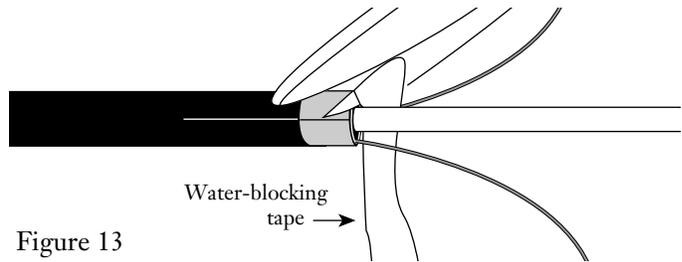

Figure 13
**4.18** Cut away the water-blocking tape flush at the tape mark with scissors (Figure 13).